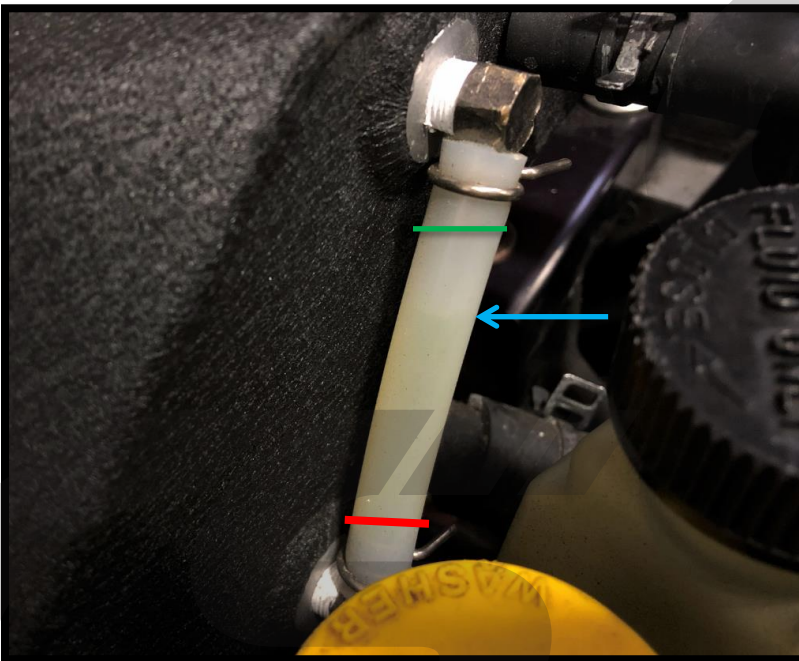

Figure 2j
- k) **Refill the coolant that was removed earlier.** If a lot of coolant was spilled during installation, ensure you top off your engine coolant. See **Figure 2j** for information on fill level.
Please note, the vehicle used for images did not have typical Mazda dark green coolant so the level is very hard to see in **Figure 2j** but is noted with the **blue arrow**.